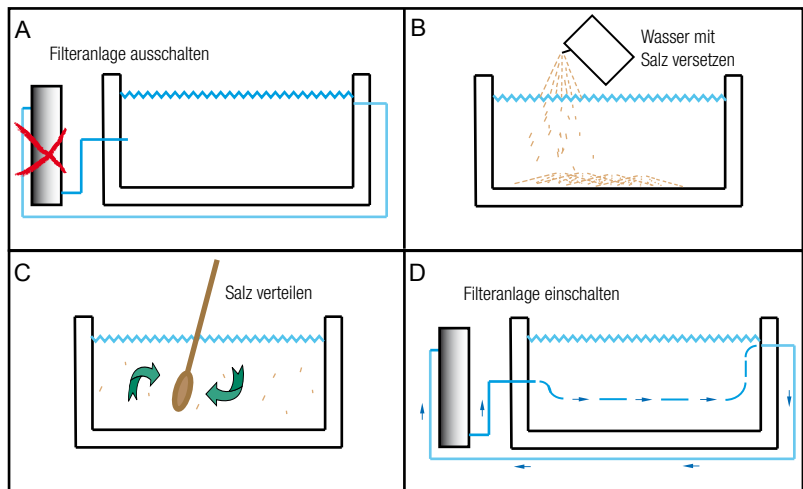

Fig. 6A-D: Adding salt to the swimming pool water
1. Switch off the filter system (see fig. 6A).